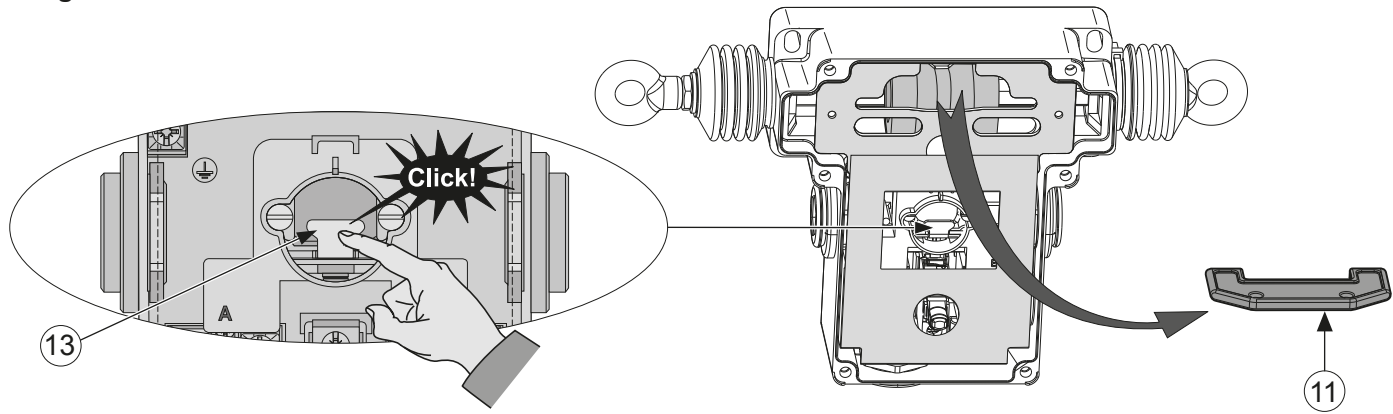

Fig.9
10. Mount the cover onto the device ① using the six screws ⑥ (tightening torque = 1.5±0.1 Nm / 1.1±0.07 lb.ft) or proceed to the wiring step (fig. 9).